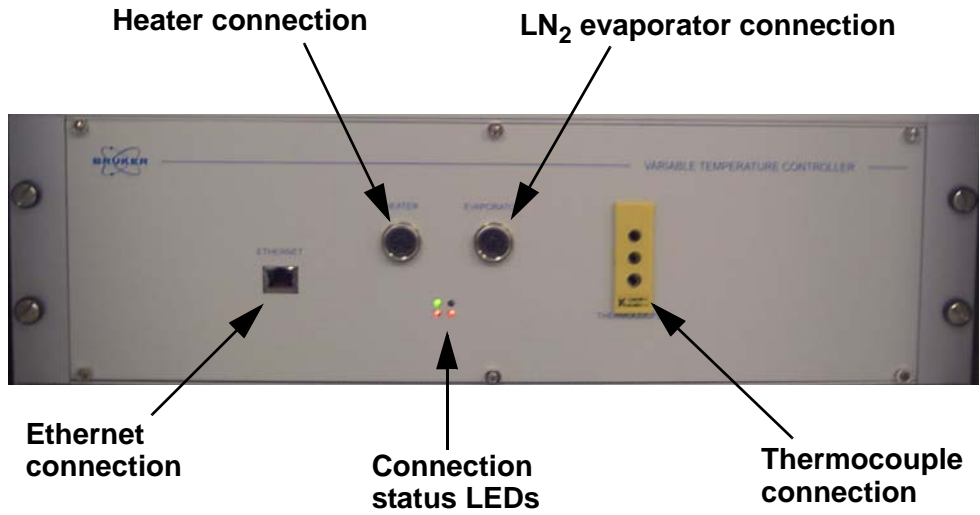

Figure 2-7 Front panel connections for ER 4141 controller.
2. **Connect the Heater/Thermocouple cables (part S) to the ER 4141 controller.** (See Figure 2-7.) Plug the eight pin heater connector into the port on the front panel labelled “Heater”. Then insert the thermocouple connector (three large pins) into the port labelled “Sensor”.